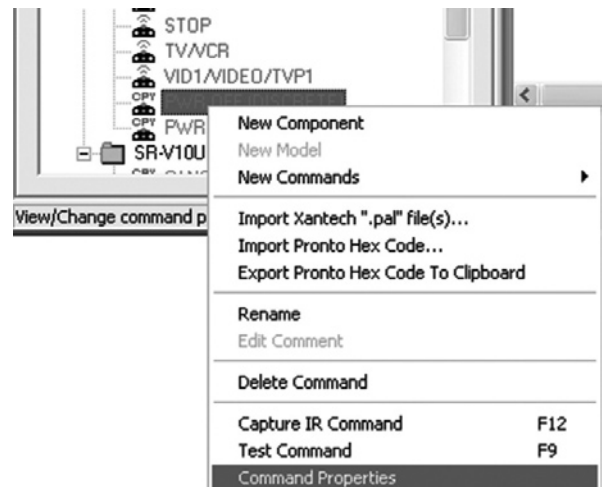

Figure 77 Selecting Command Properties
**NOTE:** All of the above functions apply to learned or imported IR code (code that has the blue letters CPY just to the left of the code name in the command list. Refer to Figure 77). Code in the
To access the **Command Properties Menu**, right-click the desired command in the **CMD Library** under **Brands** in the command list. Refer to Figure 77. Then left-click **Command Properties** in the pop-up.